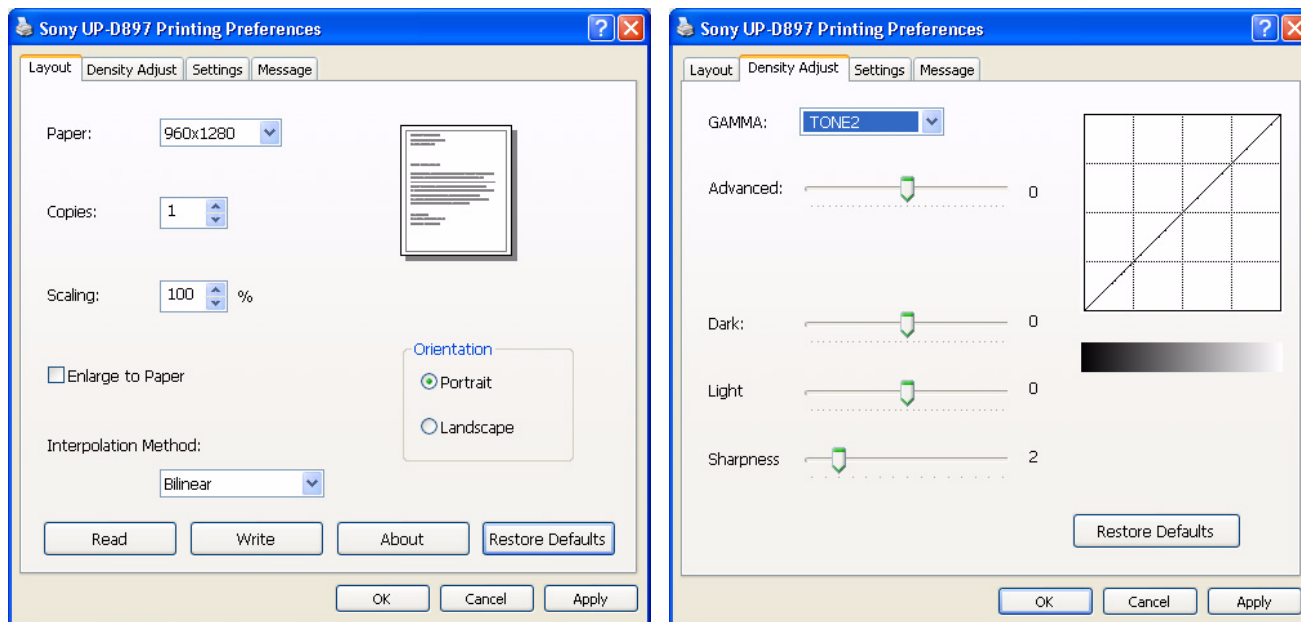

Figure 3-41 Layout + Density Adjust page
- 2.) Select the **LAYOUT** page (see: Figure 3-41 below) and select:
- 3.) Select the **DENSITY ADJUST** page (see: Figure 3-41 above) and select: